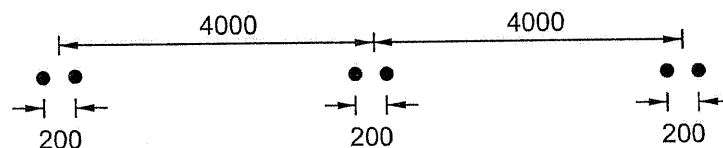

Figure 2: Two conductor in a bundle geometry
- (b) The line in (a) above is to be uprated by adding an additional conductor, identical to the existing ones, to each phase, as shown in Figure 2. For this geometry, determine the inductance, capacitance and resistance per phase for the line. (8)